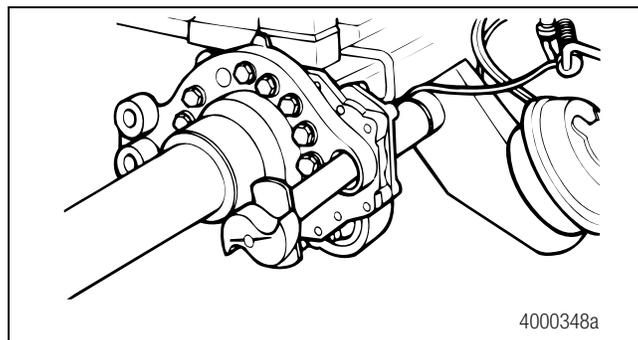

Figure 5.4
6. Install the camshaft through the spider and bracket so that the camshaft turns freely by hand. Figure 5.4.